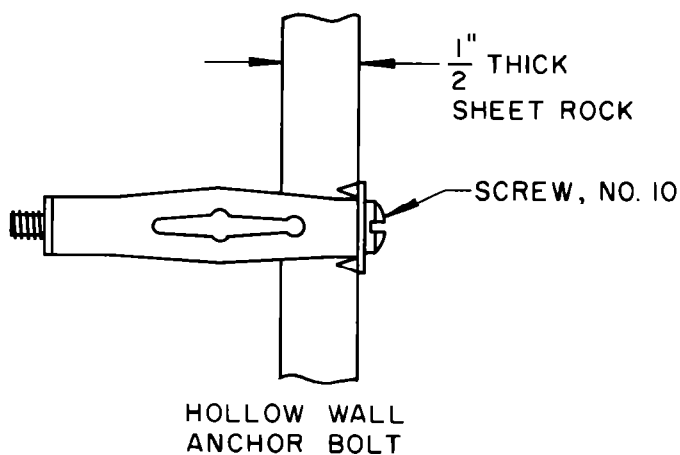

Figure 5
8. Insert four hollow wall anchor bolts into the four 7/16" dia. holes in the sheet rock. Anchor bolts are provided in installation pack. Rotate anchor bolts screws 5-10 revolutions to hold each anchor bolt in place. These will be completely tightened later. (See Figure 5).